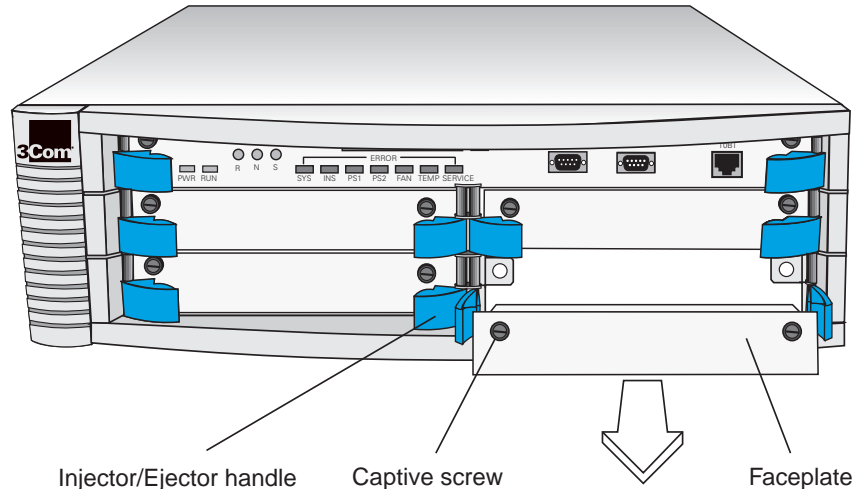

Figure 1 Removing the Faceplate
- 3 Pull the faceplate away from the system. See Figure 1. Save the faceplate for future use.